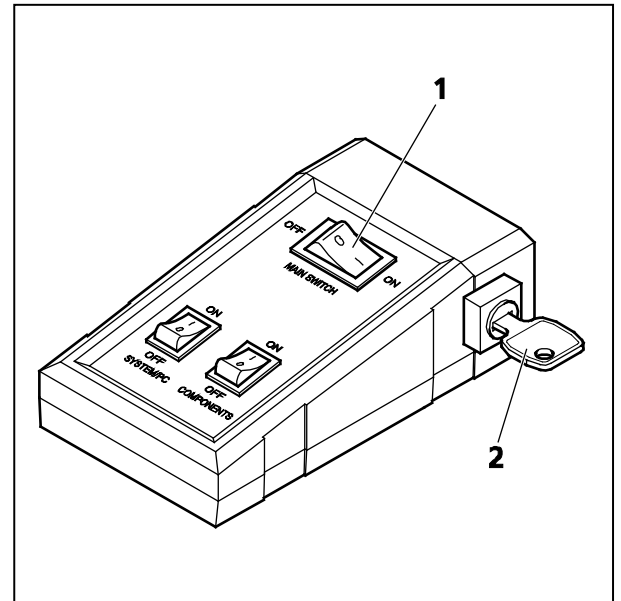

Fig. 1 Power remote switch
- Switch on the main switch (Fig. 1/1) and the safety lock (Fig. 1/2).